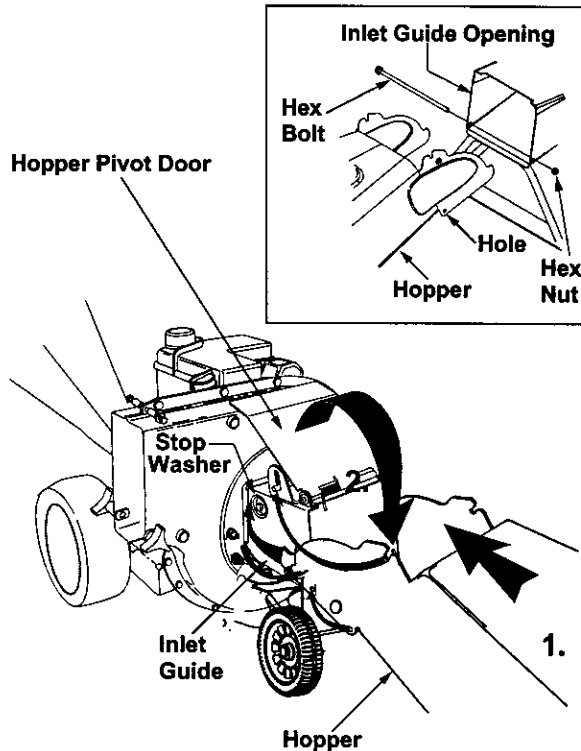

Figure 4
- Remove the 8-3/8" long hex bolt and the hex nut from the bottom of the inlet guide opening. See figure 4 inset.
- Place the hopper assembly on the ground and hold it in the position shown in step 1 in figure 4.
- Holding the hopper, push hopper pivot door down inside the hopper. See figure 4.
- Slide the hopper assembly towards the chipper-shredder housing so that the upper guide on the hopper assembly slides **under** the stop washer on each side of the inlet guide. See figure 4.
- Align the two holes (one on each side) of the lower hopper with the two holes (one on each side) of the inlet guide. See figure 4 inset.
- Insert the hex bolt (that you earlier removed) from the left through the hole on the hopper and the inlet guide. Insert the hex nut onto the bolt from the other side. See figure 4 inset.